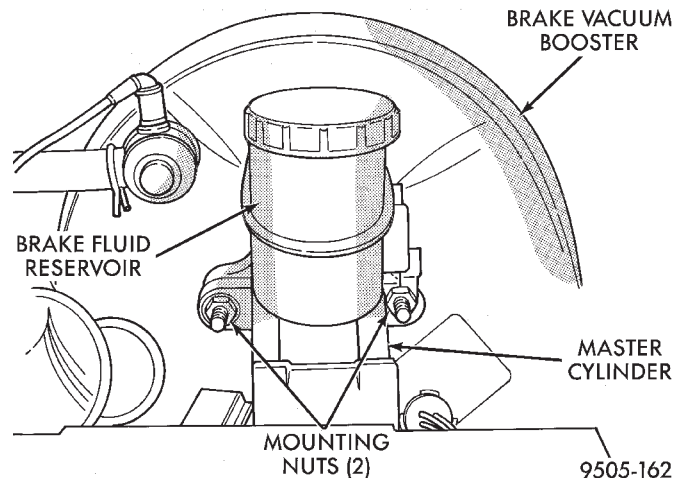
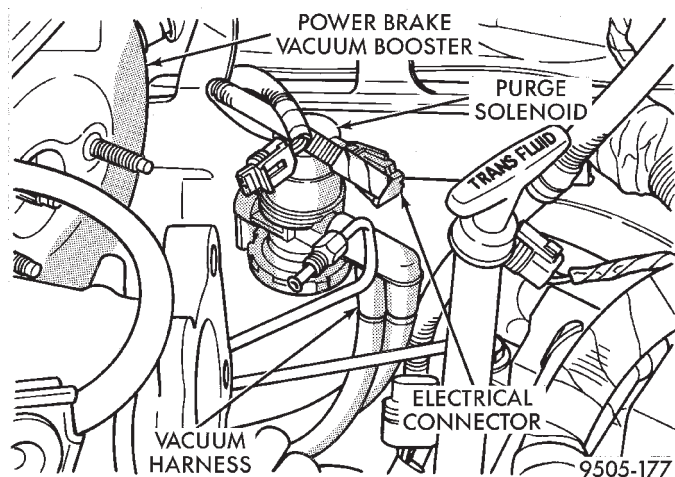
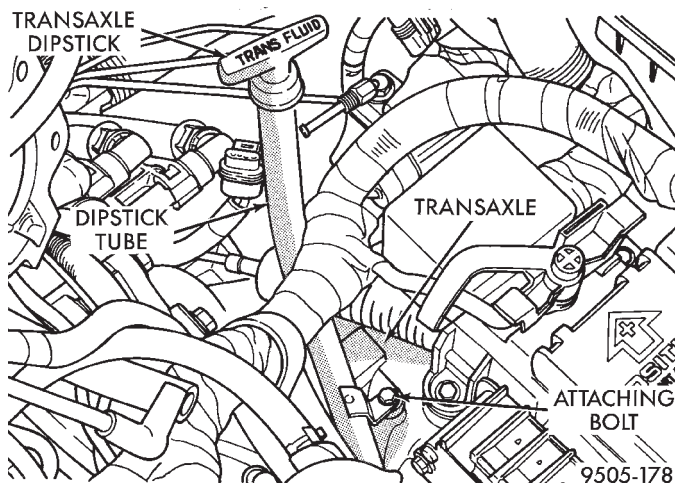
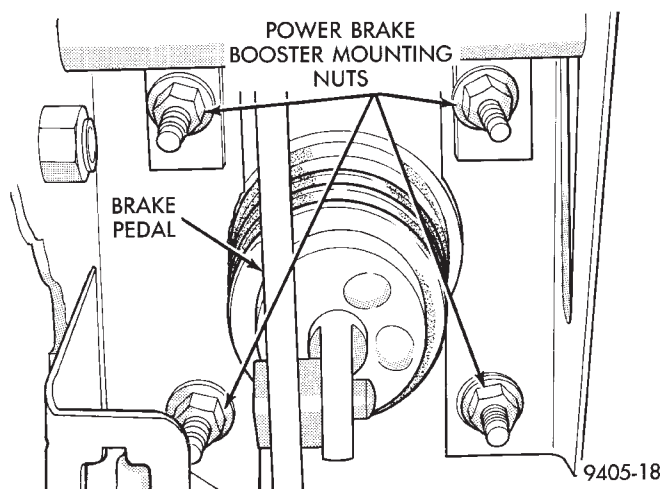

Fig. 112 Master Cylinder Mounting To Vacuum Booster
Fig. 113 Purge Control Solenoid
Fig. 114 Transaxle Dipstick Tube
Fig. 116 Power Brake Vacuum Booster Mounting
(10) Remove the 2 nuts (Fig. 112) attaching the master cylinder assembly to the power brake vacuum booster. Then remove the master cylinder assembly from the power brake vacuum booster.
(11) Remove the vacuum harness connector and electrical connector from the purge solenoid (Fig. 113). Remove bracket and purge solenoid as an assembly from the vehicle.
(12) Remove dipstick tube attaching bolt (Fig. 114). Then remove the dipstick tube and dipstick (Fig. 114) as an assembly from the transaxle.
(15) Remove the 4 nuts attaching power brake vacuum booster to dash panel. Nuts are accessible from under dash panel in area of the steering column and pedal bracket assembly (Fig. 116).
- (1) Position power brake booster onto dash panel.
- (2) Install and torque the 4 power brake vacuum booster mounting nuts (Fig. 116) to 29 N·m (250 in. lbs.) torque.
- (3) Using lubriplate, or an equivalent, coat the surfaces of the brake pedal pin that contact the power brake vacuum booster input rod.
- (4) Connect power brake vacuum booster input rod to brake pedal pin and install a **NEW** retaining clip. **Use only a new retainer clip DO NOT USE the old clip.**
- (5) Install the dipstick tube in transaxle (Fig. 114). Install dipstick tube attaching bolt and securely tighten (Fig. 114).
- (6) Install the vacuum hoses on the check valve in the power brake vacuum booster.
- (7) Position purge control solenoid (Fig. 113) on left front strut tower and install and securely tighten attaching bolt. Then correctly route and install the vacuum harness connector and electrical connector (Fig. 113) on the purge control solenoid.
- (8) Position master cylinder on studs of power brake unit, aligning push rod on power brake vacuum booster with master cylinder push rod.
- (9) Install the 2 master cylinder to power brake unit mounting nuts (Fig. 112). Tighten the 2 mounting nuts to a torque of 28 N·m (250 in. lbs.).